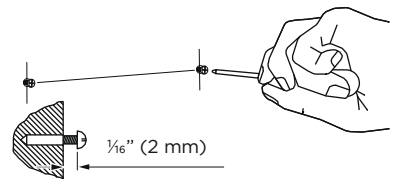
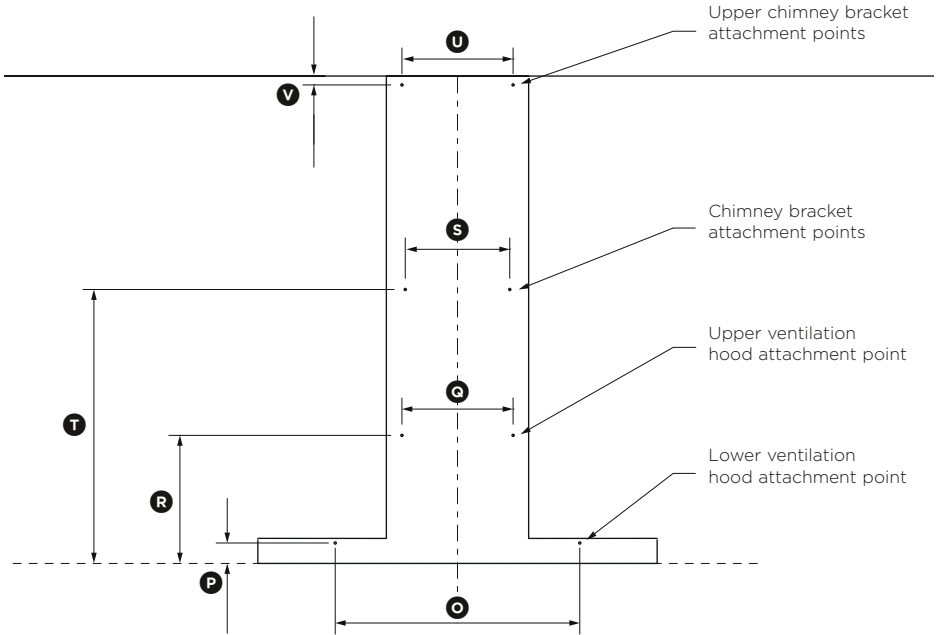

Fig.1
Fig.2
- Ensure the voltage (V) and the frequency (Hz) indicated on the serial plate match the voltage and frequency of the installation site.
② Attach chimney brackets and ventilation hood mounting screws to the wall
- Attach the chimney bracket and upper chimney bracket (if using the upper chimney) in the locations shown in Fig.2 (refer to page 13) and Fig.3 (refer to page 14). Use the $1\frac{3}{16}$ " (30 mm) screws (and expansion plugs if attaching to masonry).
- Attach the upper ventilation hood mounting screws in the locations shown in Fig.2 (refer to page 13) and Fig.3 (refer to page 14). Using the $1\frac{3}{16}$ " (30 mm) screws (and expansion plugs if attaching to masonry). Ensure that there is a $\frac{1}{16}$ " (2 mm) gap between the screw head and the wall (Fig.1).